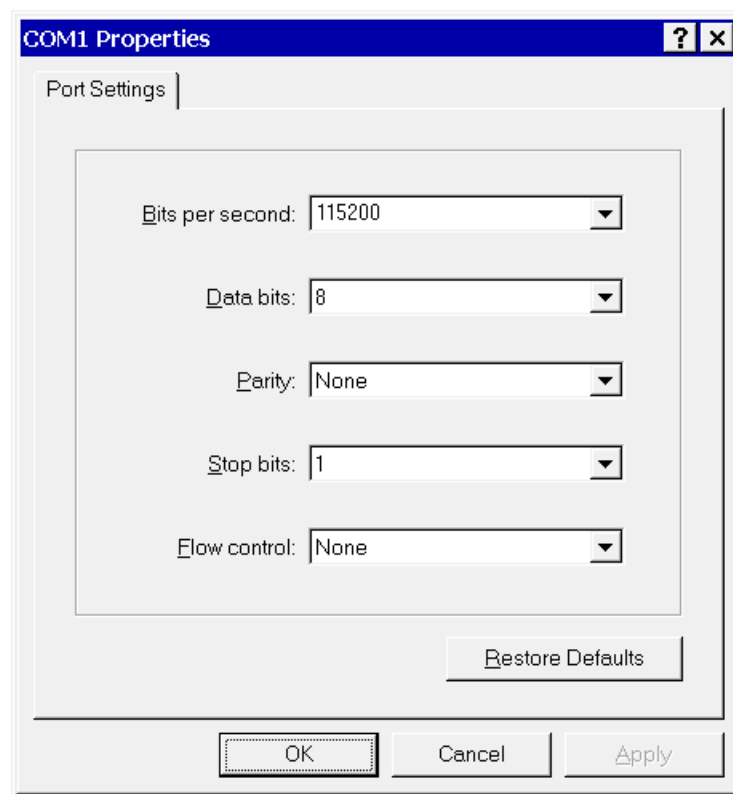

Figure 56: HyperTerminal Settings
- Select 115200 bits per second, 8 data bits, Parity None, 1 Stop bit, Flow control None. (See figure 56)
- Enter a folder where to save the file and use the XMODEM protocol. (See figure 56)